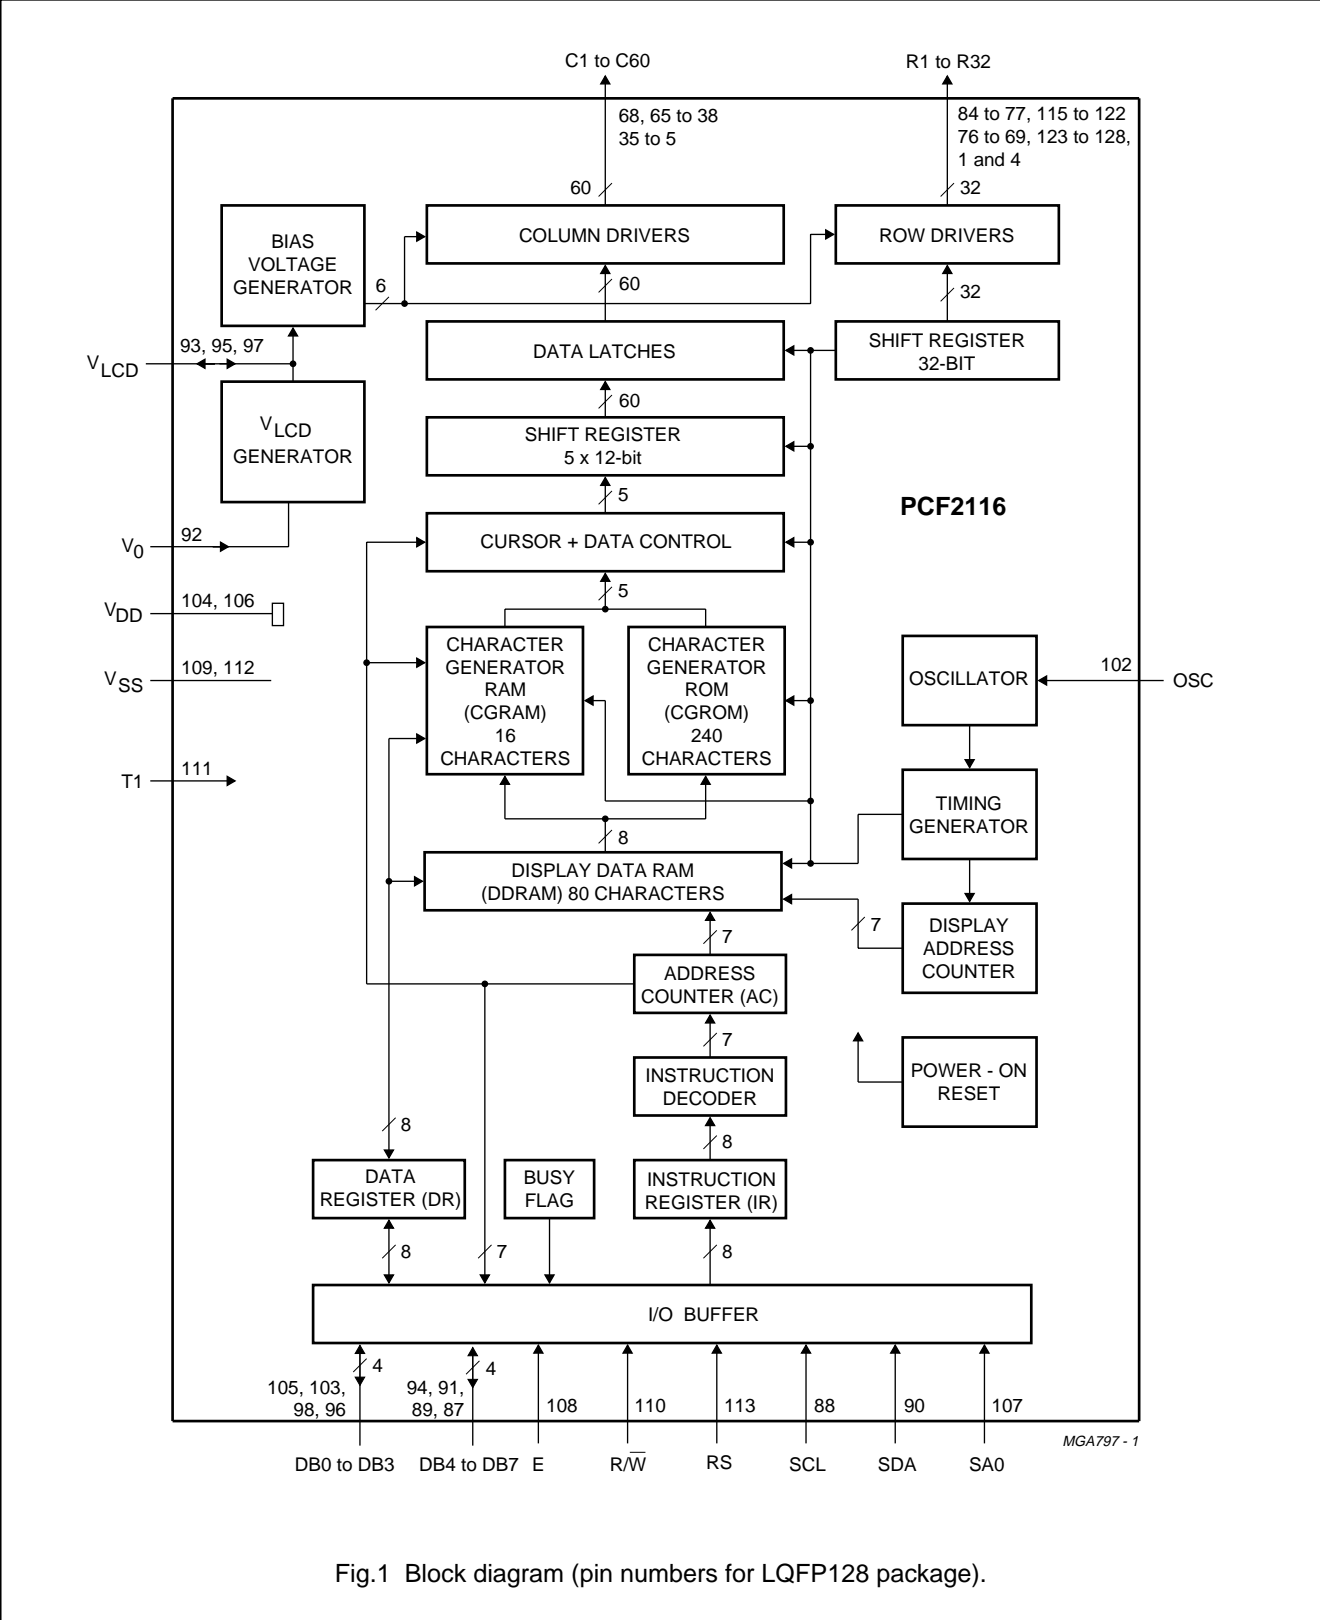

Fig.1 Block diagram (pin numbers for LQFP128 package).
**8 FUNCTIONAL DESCRIPTION** (see Fig.1)**8.1 LCD supply voltage generator, PCF2114x and PCF2116x**